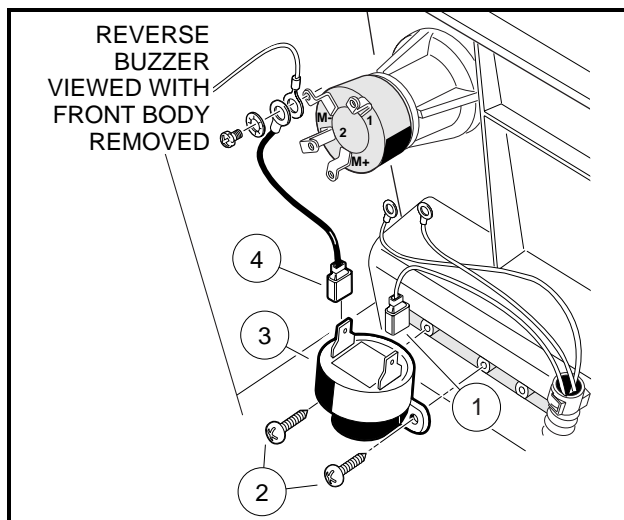

Figure 12-21 Reverse Buzzer
3. Disconnect the wires from the reverse warning buzzer (3). Do not allow wires to touch (**Figure 12-21, Page 12-19**).
4. Remove reverse warning buzzer mounting screws (2) (**Figure 12-21, Page 12-19**).
2. Connect black wire (4) from key switch to the negative (–) terminal on the buzzer (**Figure 12-21, Page 12-19**).
3. Connect the red/white wire (1) from the wire harness to the positive (+) terminal on the buzzer. (**Figure 12-21, Page 12-19**)